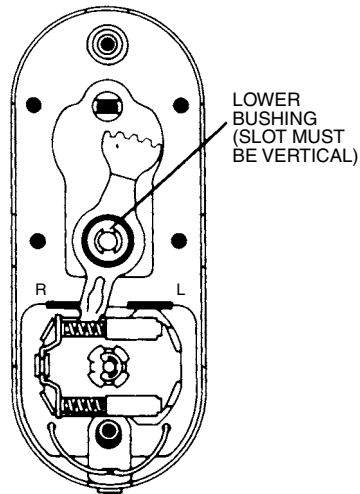

Figure 13.102 Right-hand conversion, Step 10.
10. Install the lower bushing (Fig. 13.102).